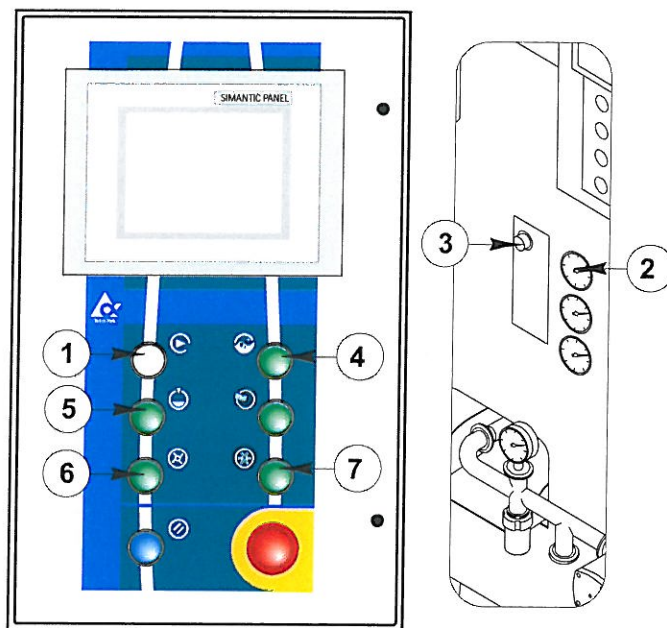

Fig. 6.4
- c. Start up the pump using the switch (*Pos. 5 - Fig. 6.4*).
- d. Start up the dasher using the switch (*Pos. 6 - Fig. 6.4*).
- f. Stop the dasher and the pump by pushing the switches (*Pos. 6 Fig. 6.4*) and (*Pos. 5 - Fig. 6.4*).